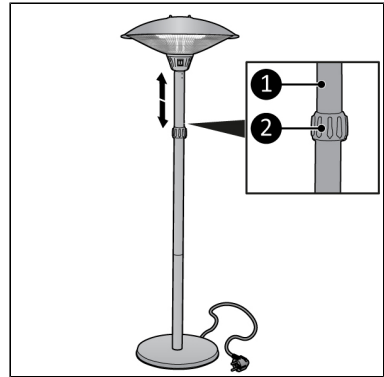

Figure 24.
Take the minimum distance into consideration when adjusting the height (Figure 24).
2. Loosen the adjustment knob (Figure 24, pos. 2) and slide the adjustable tube (Figure 24, pos. 1) to the desired height.